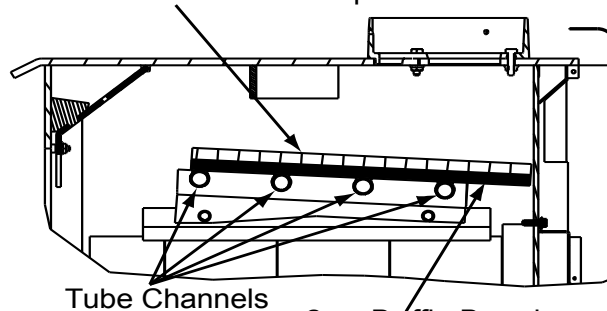

Figure 11.1
1. Confirm the baffle is correctly positioned. It should be even with the front tube and resting on all tubes. **Figure 11.1 and 11.2 on page 11.**